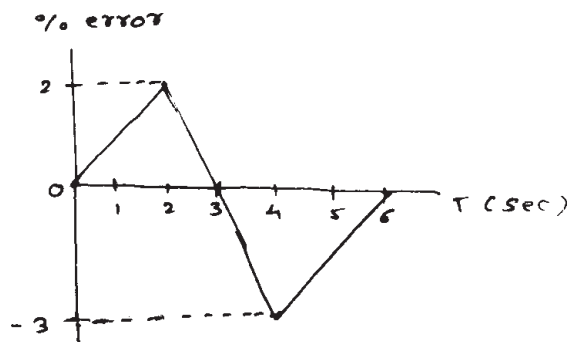

Fig. 1
- Q10)** a) A PD controller has $K_p = 2.0$, $K_D = 2s$. Controller output for zero error is 40%. Plot the controller output for the error shown in figure. 1. [8]